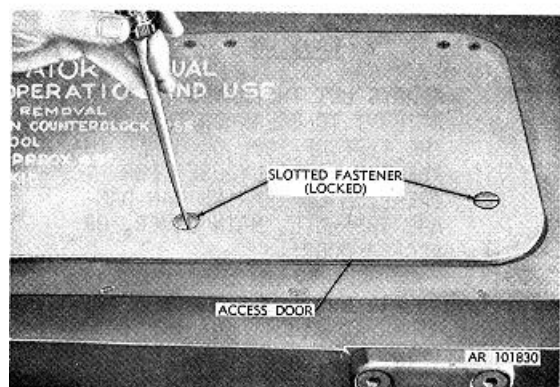
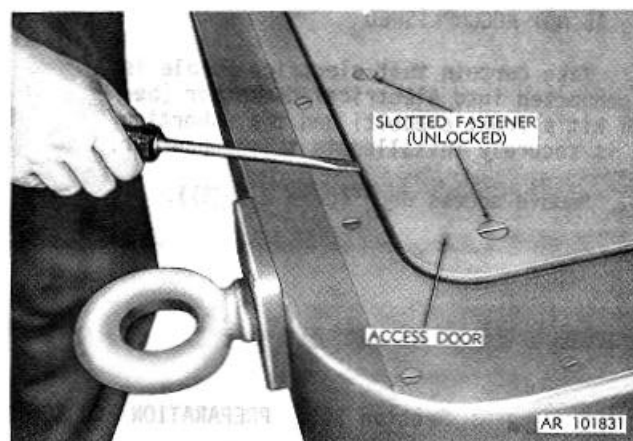

Figure 2-3. Loosening slotted head fasteners in access door.
Figure 2-4. Removing access door.
(5) With a screwdriver, turn the six, slotted head fasteners on the access door (fig. 2-3), one-quarter turn counterclockwise, then pry the access door upwards along its rear edge (fig. 2-4) until rear edge of door can be tilted up and away from hull. Disengage the four lugs on forward edge of door, lift the door away from hull, and place it on main cover in an upside-down position.
(6) Carefully inspect interior of accessory compartment and interior of equipment box. Assure all accessories and equipment listed in table 1-1 are in the accessory compartment and no dirt, condensation, or other foreign matter is present. Inspect color-matched connectors on Y cable and firing control switch to assure they are properly connected.
(7) Upon determination that the accessory compartment contains all required accessories and equipment as listed in table 1-1, install access door by hooking the four lugs on its front edge under front edge of compartment. Lower rear edge until access door is properly seated. With a screwdriver, turn the six slotted fasteners one-quarter turn clockwise to secure door (fig. 2-3). Reinstall tape around access door if kit is not to be fired immediately.